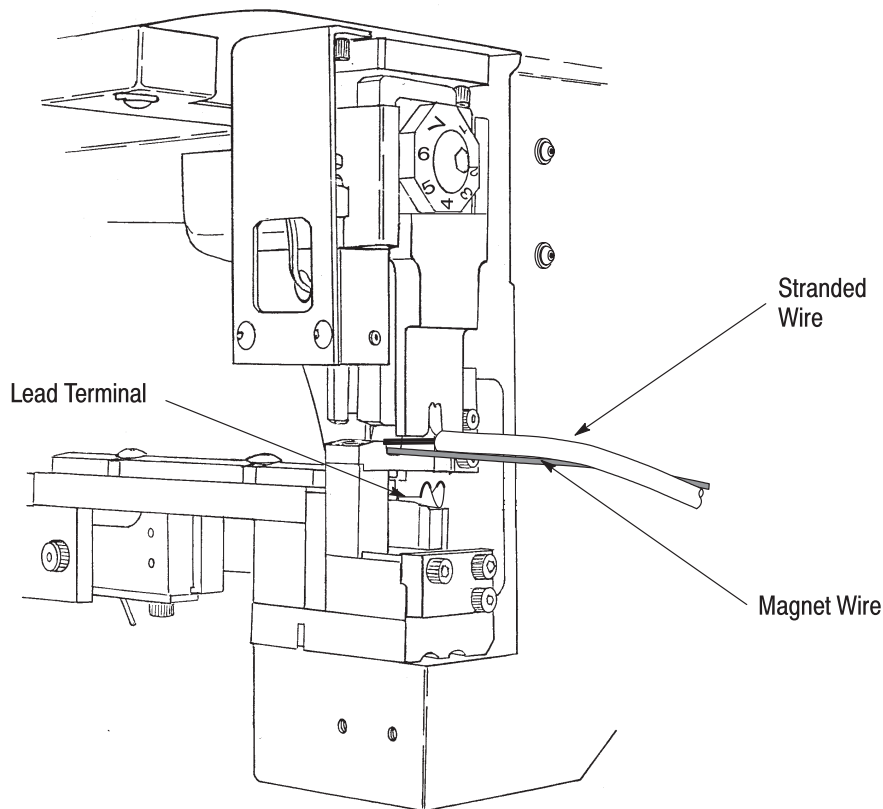

Figure 15
5. Place wire in the tooling area as shown in Figure 15 (the total Circular Mil Area of the wire should be within the CMA range of the terminal being crimped).
3. Place wire in the tooling area as shown in Figure 15, (the total Circular Mil Area of the wire should be within the CMA range of the terminal being crimped).
4. Place wires in the “target area,” aligned with the terminal. See Figure 15. When using stranded wire and magnet wire, position as shown in Figure 15. When splicing two magnet wires, they may be in any position with respect to each other. The crimp tooling will automatically position them side-by-side in the bottom of the terminal as crimping occurs.